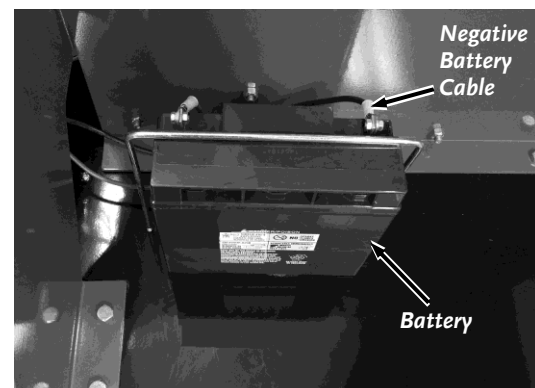

Figure 12
1. Connect the Negative Battery Cable onto the Negative Terminal Lug of the Battery with the existing Bolt, Washer and Nut using a 5/16" Wrench and a Phillips Head Screwdriver (**Figure 12**).